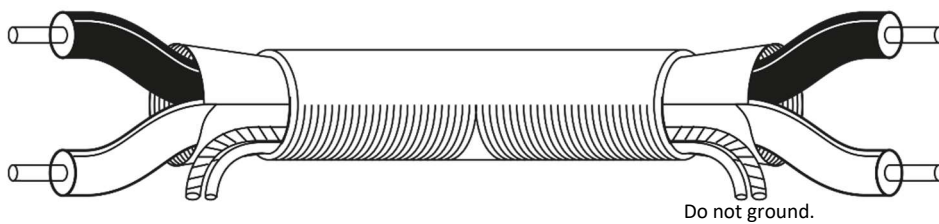

Figure 8 - Instructions on shielding Isolation.
- For the wiring, it is recommended to use shielded cable with a cross-section between 0.75 mm2 and 1.5 mm2 with a copper braid, where only one end of the shielding should be grounded. Figure 8 provides instructions on isolating the braid.